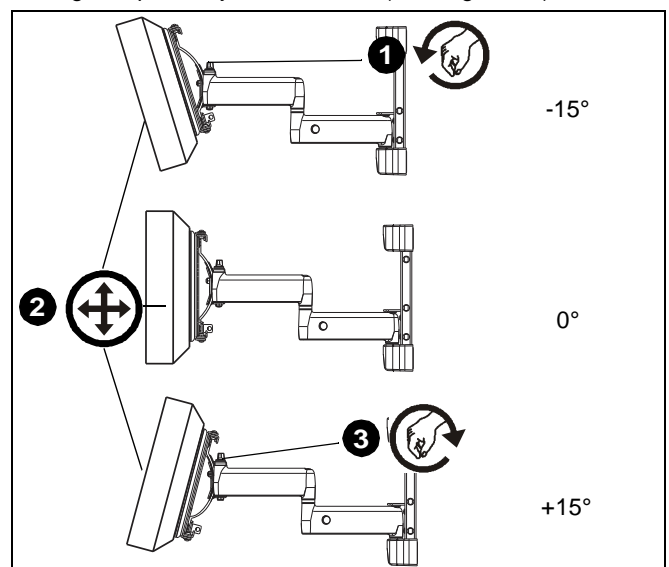

Figure 13
1. Loosen pitch adjustment knob. (See Figure 13)
2. Tilt display to desired angle (-15° to +15°). (See Figure 13)
3. Tighten pitch adjustment knob. (See Figure 13)